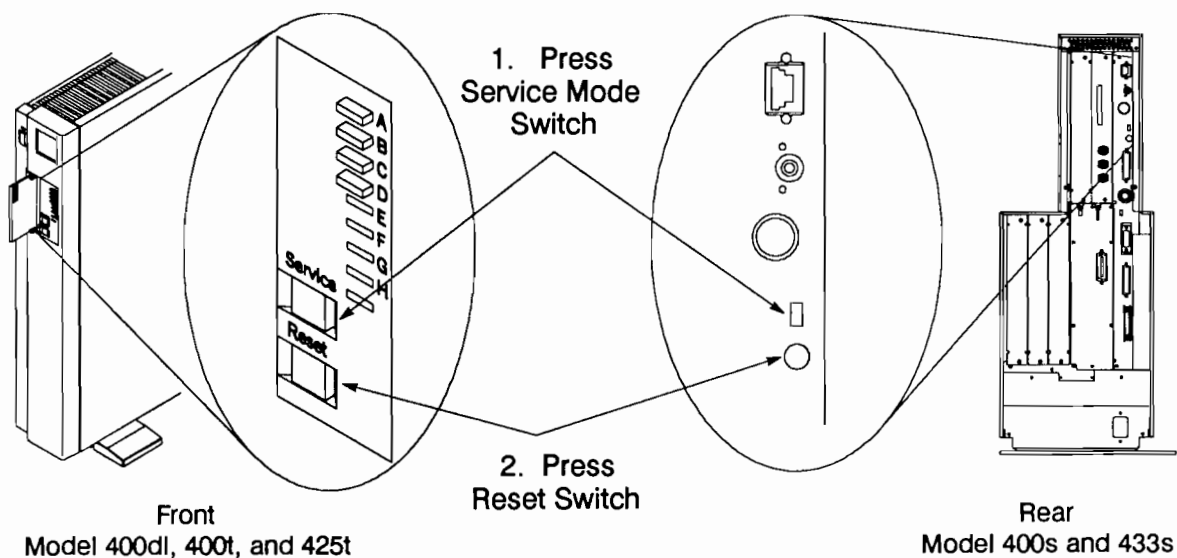

Figure 10-1. Starting a Workstation in Service Mode
1. Before the system finishes the self tests, press the Service mode switch to set the system to Service mode (the Service LED on the system's front panel lights). Then press the Reset switch as shown in Figure 10-1. Press the `< RETURN >` key until the screen displays the Mnemonic Debugger (MD) `">"` prompt.